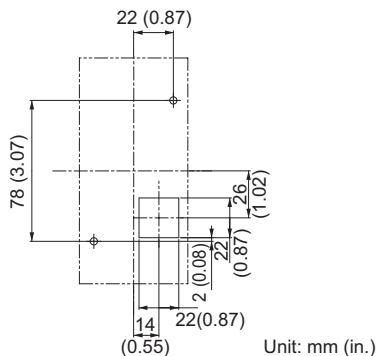

Figure 12 Panel Cut-out Dimensions (External/Face-mount Installation)
1. Cut an opening in the enclosure panel for the option according to Figure 12.